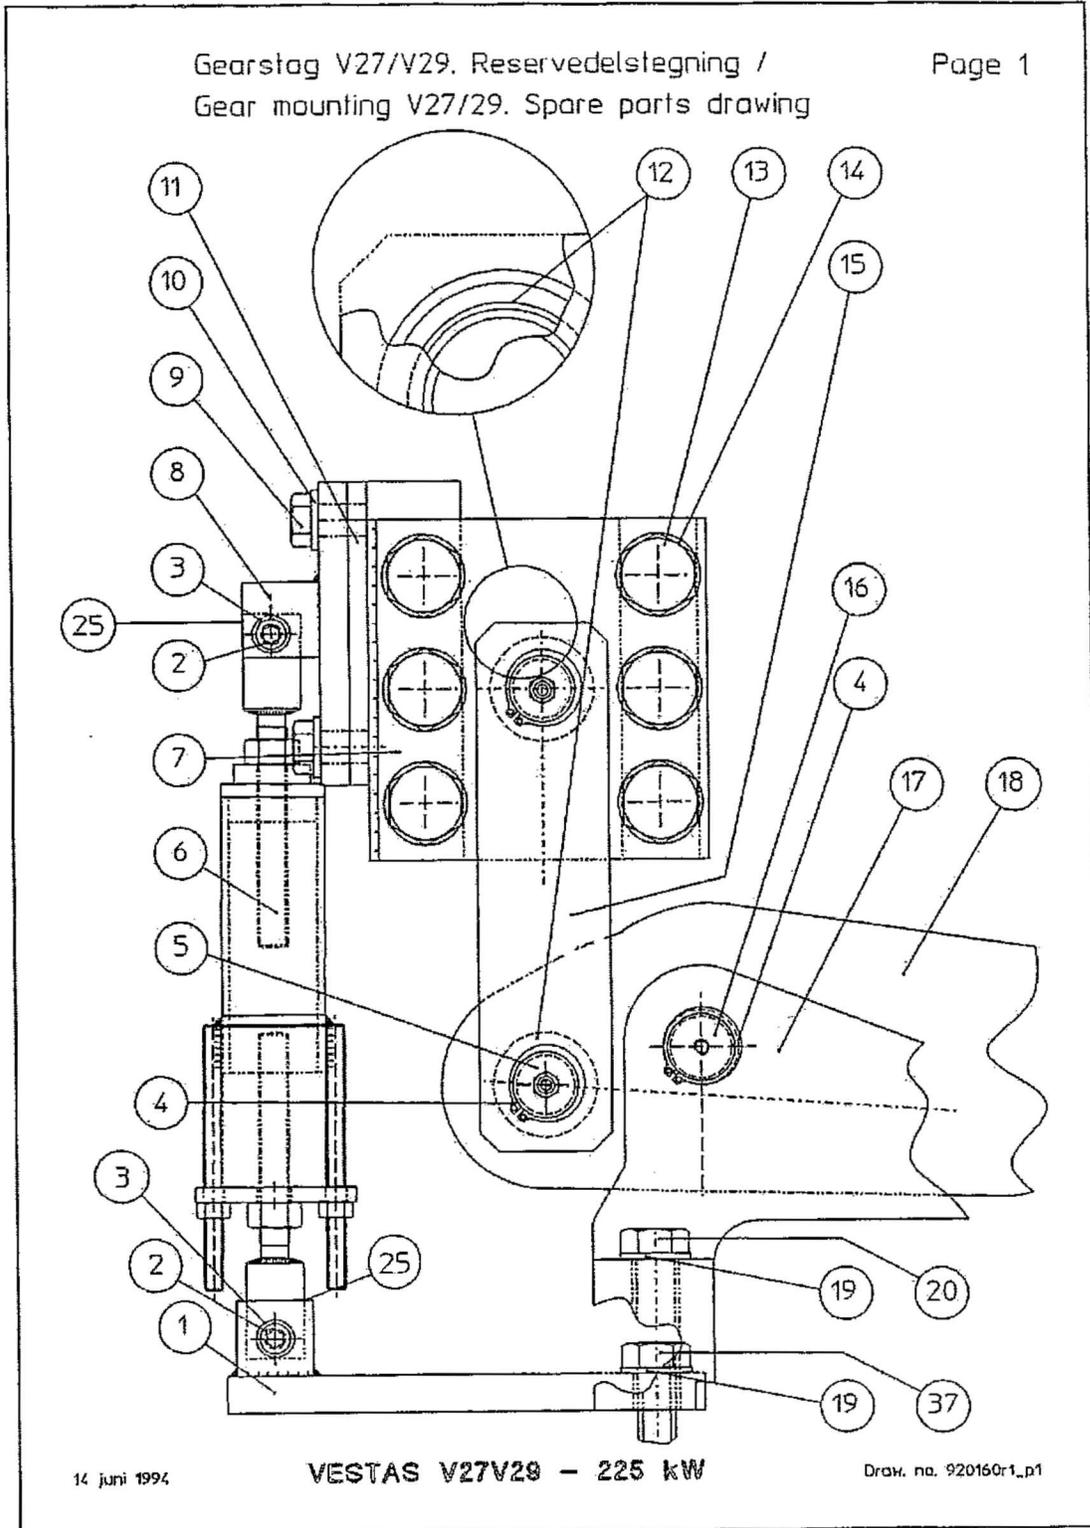
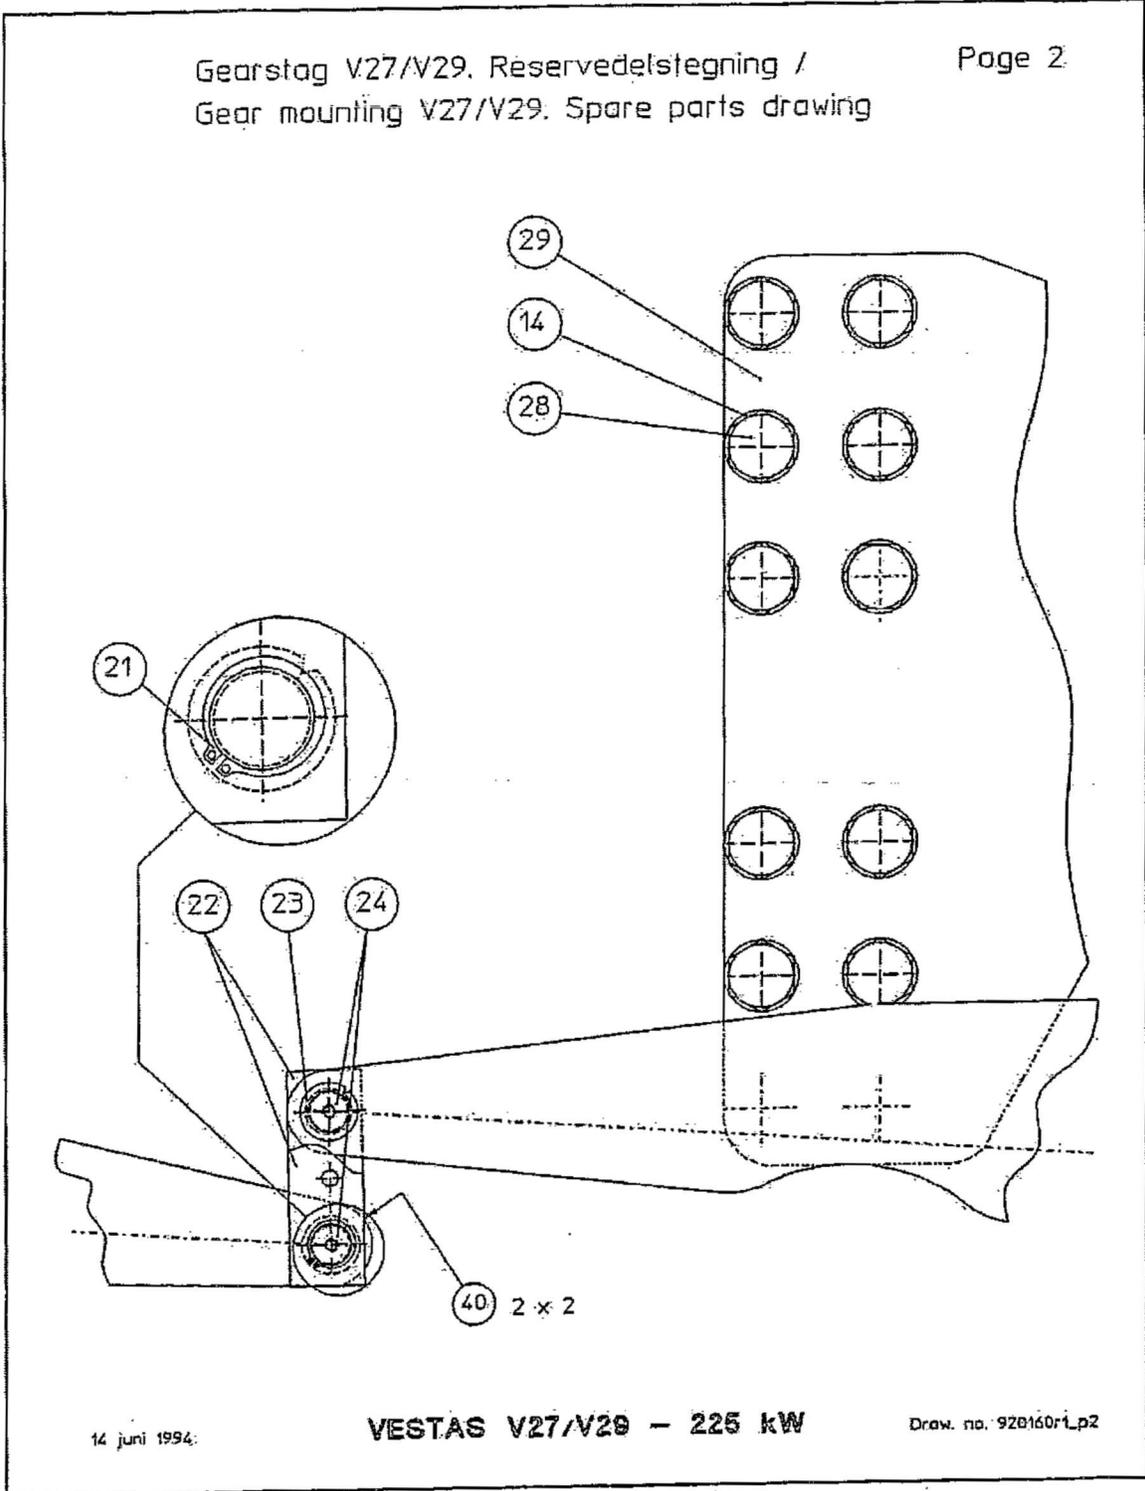
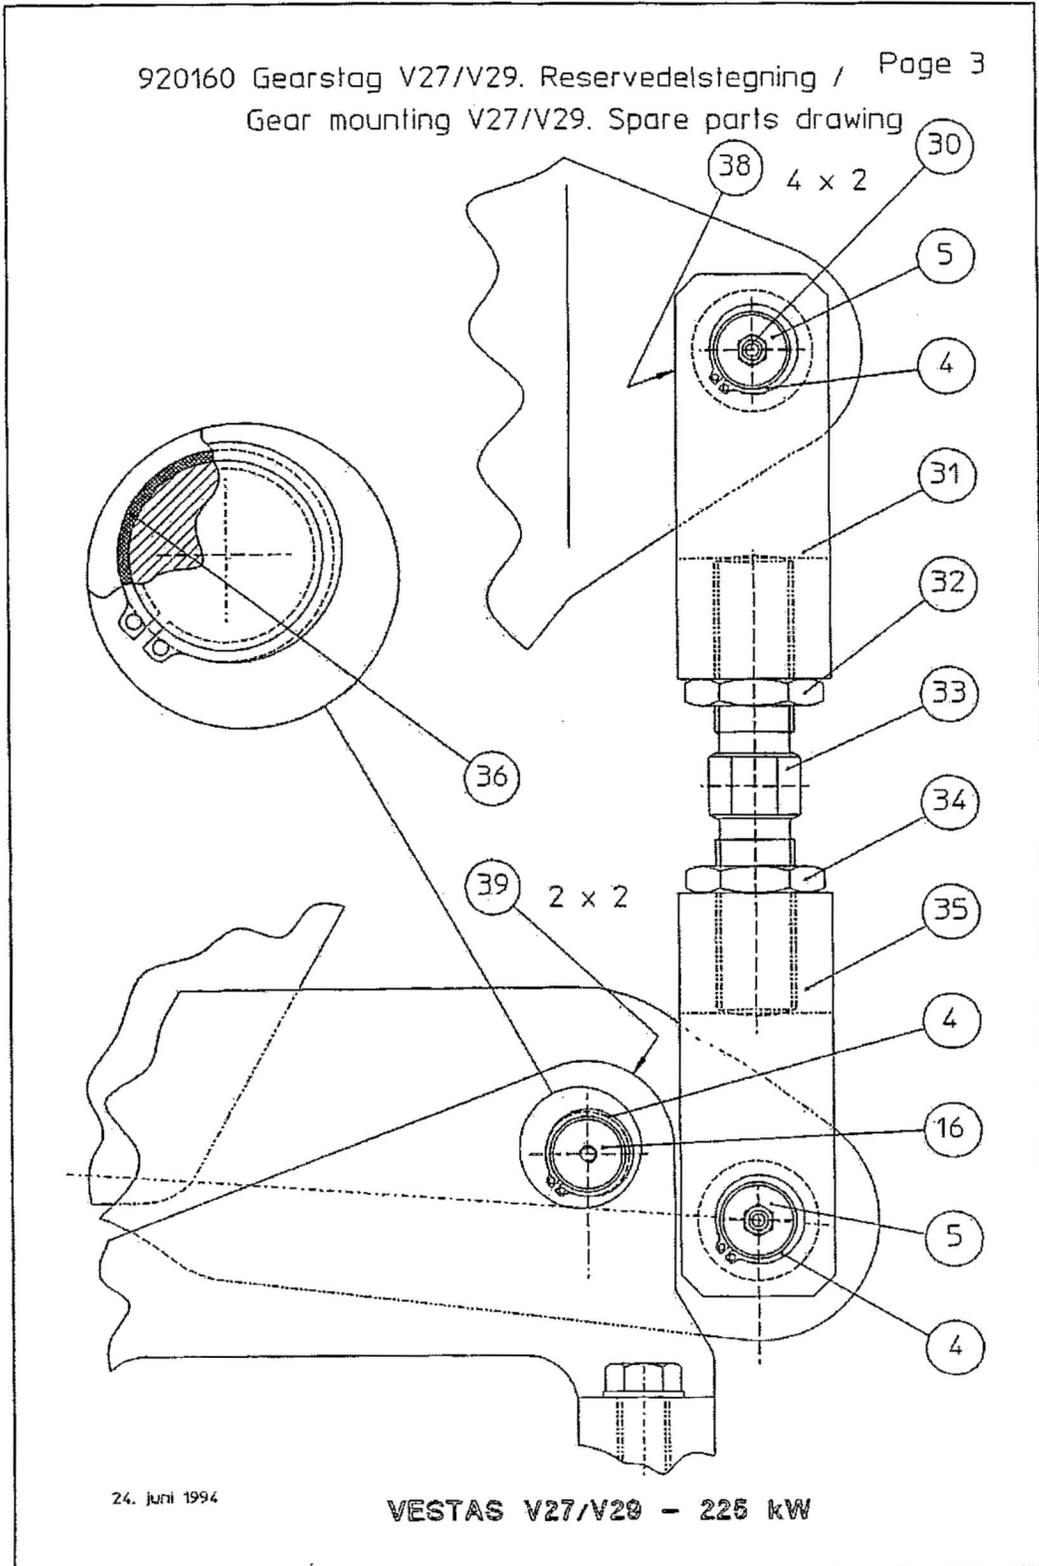

Figure 4-36. Spare parts drawing, gear mounting
Figure 4-37. Spare parts drawing, gear mounting
Figure 4-38. Spare parts drawing, gear mounting
**Refer to** Figure 4-36 and 4-37
1. **M24 bolts on the gearbox:** The bolts on the gearbox need not be tightened during ordinary inspections, but only in connection with a special torque inspection. Two bolts (pos. 13, Figure 4-36) and (pos. 28, Figure 4-37) in each side are tightened using a torque wrench setting of 55 Nm (412 ft.-lbs.). If it is possible to tighten any bolt, all bolts should be checked.
2. **M20 bolts for the bearing bracket:** The bolts between the bearing bracket, the connection rod, and the nacelle bedplate need not be tightened during ordinary inspections, but only in connection with a special torque inspection. One bolt (pos. 20, Figure 4-36) in both sides are tightened using a torque wrench setting of 325 Nm (240 ft.-lbs.).
**Refer to** Figure 4-36, 4-37, and 4-38
3. Check the shafts that fit in the cover splice bars (pos. 15, Figure 4-36) and forks (pos. 35, Figure 4-38) to the rigging screws. If there is more play than 0.02 mm, the shafts should be replaced.
4. Check the play between the shafts (pos. 16, Figure 4-36 and pos. 24, Figure 4-37) and the glycodur bushings (pos. 36, Figure 4-38 and pos. 23, Figure 4-37). If there is more play than 0.20 mm (0.008”), the glycodur bushings and the shafts should be replaced.
1. Remove the shock absorber between the gearbox and bedplate if equipped (pos. 25, Figure 4-36) and check to see whether it provides appropriate resistance. Replace if needed. (Note: There shall no substitute mounting.)